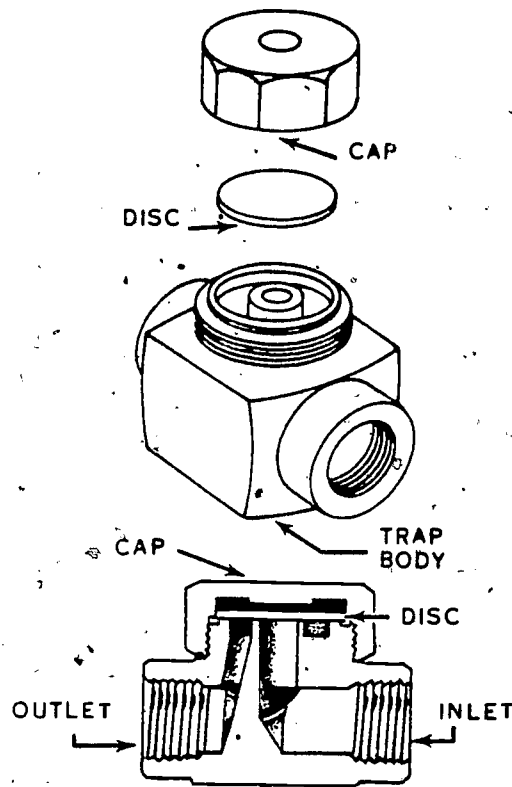

Figure 59. A typical thermodynamic trap.
22. *Thermodynamic trap.* A typical thermodynamic trap is illustrated in figure 59. The thermodynamic trap contains only one moving part—a disc. This disc is operated by changes in steam pressure. Pressure under the disc raises it to allow the condensate to be discharged. Droplets of condensate form on top of the disc. Then steam enters at high velocity and creates a low pressure under the disc; the droplets of water above the disc then flash into steam and create a high pressure above the disc. (You recall that water expands to as much as 1728 times its volume when it changes to steam.) This high pressure against the top of the disc overcomes the lower pressure of the incoming steam, so the trap closes. As more condensate collects in the trap, the steam above the disc condenses and relieves the high pressure and the cycle is repeated.